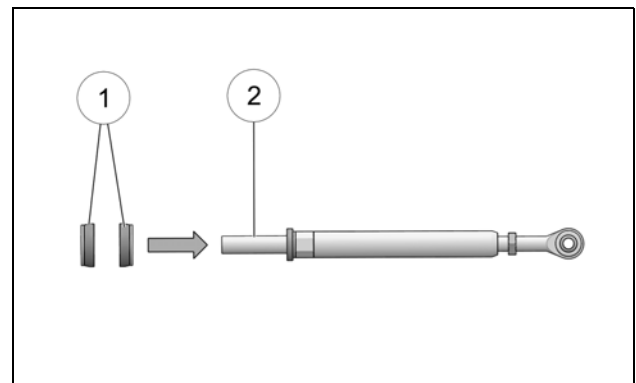

Figure 8
- Re-install two of the rubber dampers (1) on lower end (2) of Strut Rod. The dampers' rubber sides must face each other. Figure 8.